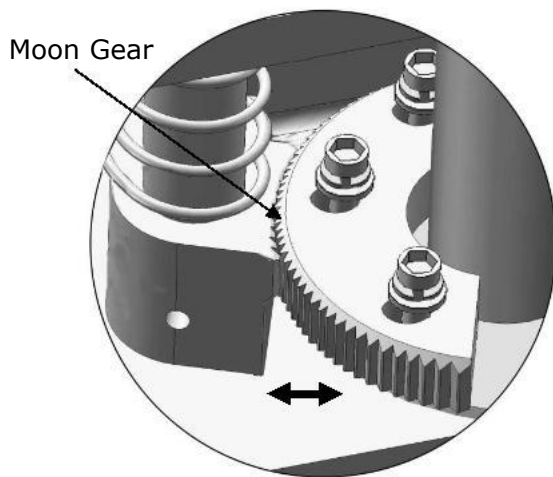

Fig. 34
3. Adjust the arm lock as direction of arrow (See Fig. 34)